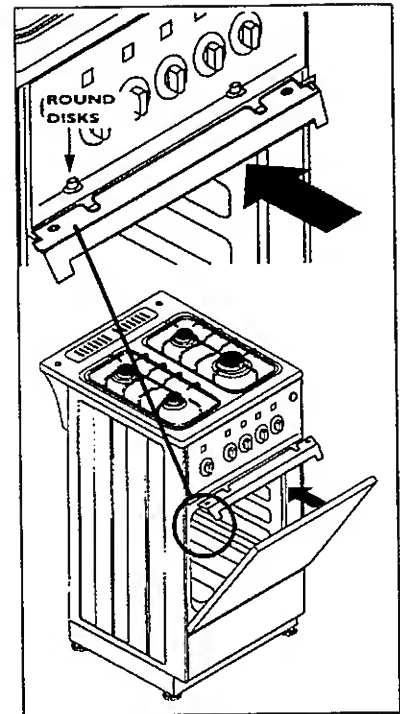

Figure 11
- Place the heat deflector panel, as shown in Figure 11.